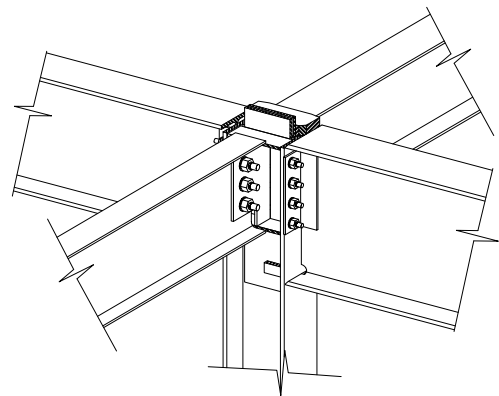
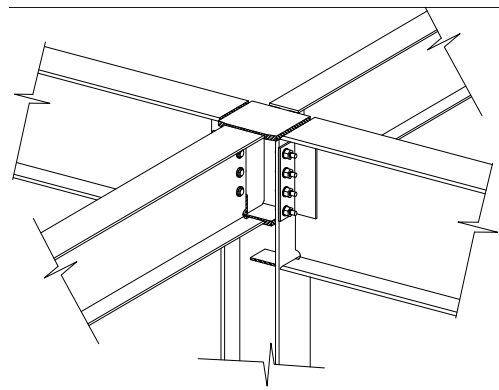

Figure 1: Moment connection detailed with no load provided.
Figure 2: Moment connection detailed with the load provided.
*Moment connections that do not show a detail, don't provide a load or the detail given does not fit the project are problematic.* See Figure 1 for a moment connection detailed using a 3D modeling software. This connection (un-buildable) was using the maximum moment for the beam. Now see Figure 2. This moment connection is the result of having the actual design moment provided. A very clean, buildable and erectable connection that does exactly what the designer desired. Naturally, an RFI had to be generated to get the desired outcome.